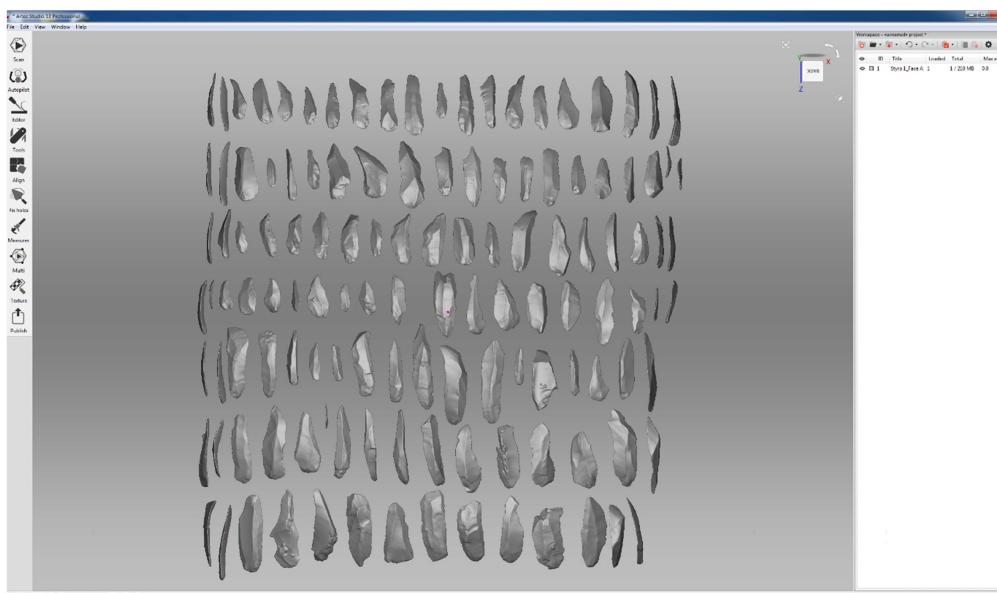

Fig. 27: Isolated and cleaned Face A.
- 30** Save the isolated and cleaned Face (Fig. 27).
34.1 Rotate the model with the left mouse curser in the 3D View Panel as shown in Fig. 27. Remember to position the scan so that their order corresponds to their actual order, i.e., the first artefact in the model must be the first one in the list, so it is placed on the upper left. Also remember to look at the scan from the correct side. The scan can also be oriented using the reference pictures.